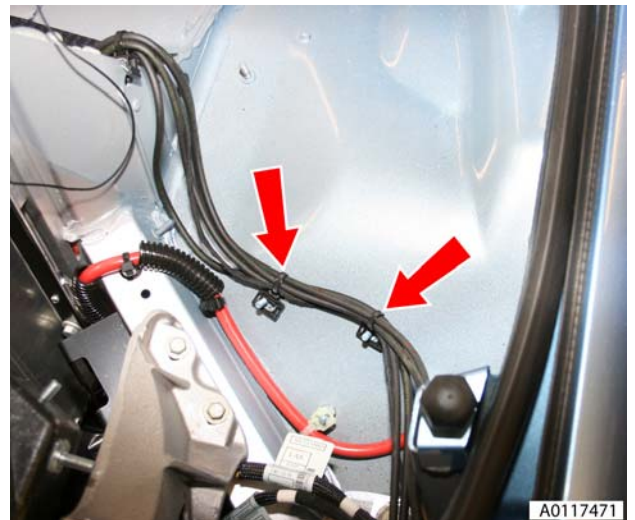

Figure 6
- Remove harness/pipe retaining clips (x2) (LH) (see Figure 6).